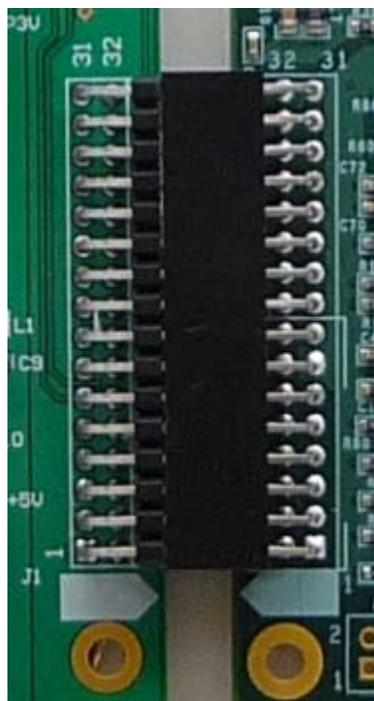

Figure 4 – LMP91050SDEVAL-to-SPIO-4 Board Connection
1. Connect the LMP91050SDEVAL's **J1** to SPIO-4 Board's **J6**. See Figure 4.